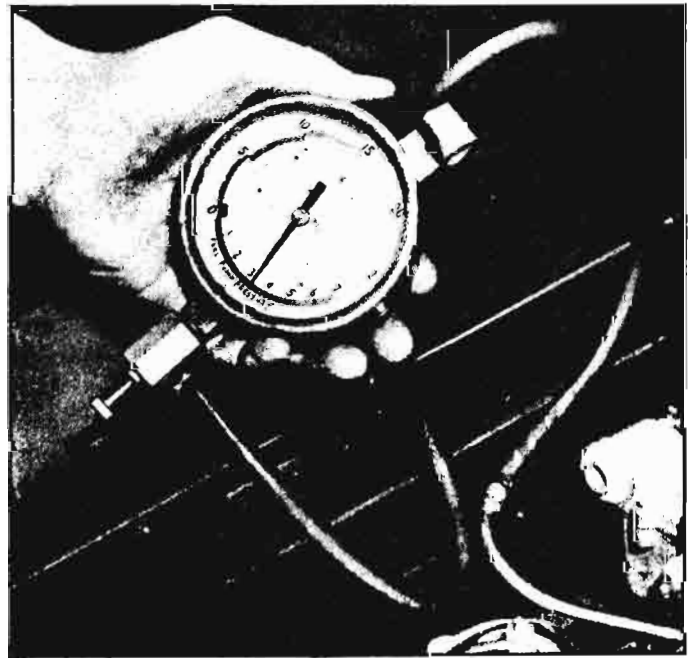

Fig. 7-17—Fuel Pump Pressure Test
- Attach vacuum-pressure gauge hose to fuel line (fig. 7-17) while opposite line remains plugged from above test.